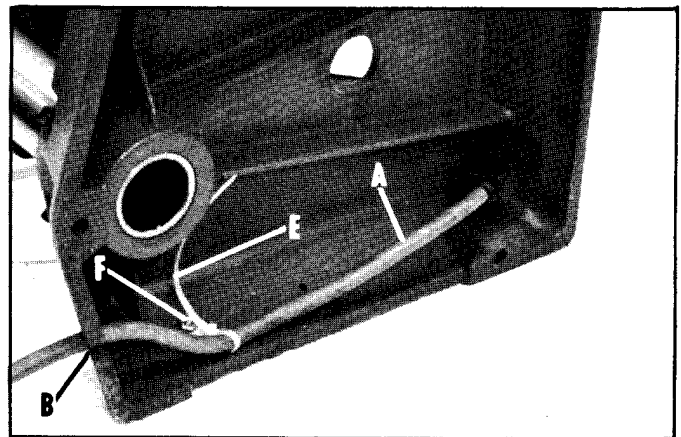

Fig. 8
3. Tilt the drill press on its side and place the cord (A) Fig. 8, in the slot (B). Insert switch stem through hole in front of drill press base making sure the keyway in the switch stem is in the down position.
5. **IMPORTANT:** Using the nylon wire clamp (E) and screw and nut (F) Fig. 8, tie the cord in such a manner, as shown in Fig. 8, that there is no danger of the cord being "pinched" when the drill press base is fastened to a stand or workbench.